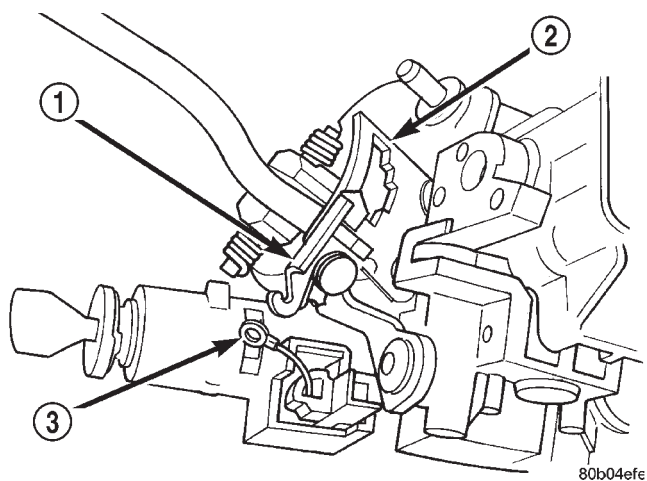

Fig. 64 Latch and Shifter Gate
- (1) Ensure the latch rotates freely on the shifter gate (Fig. 64).